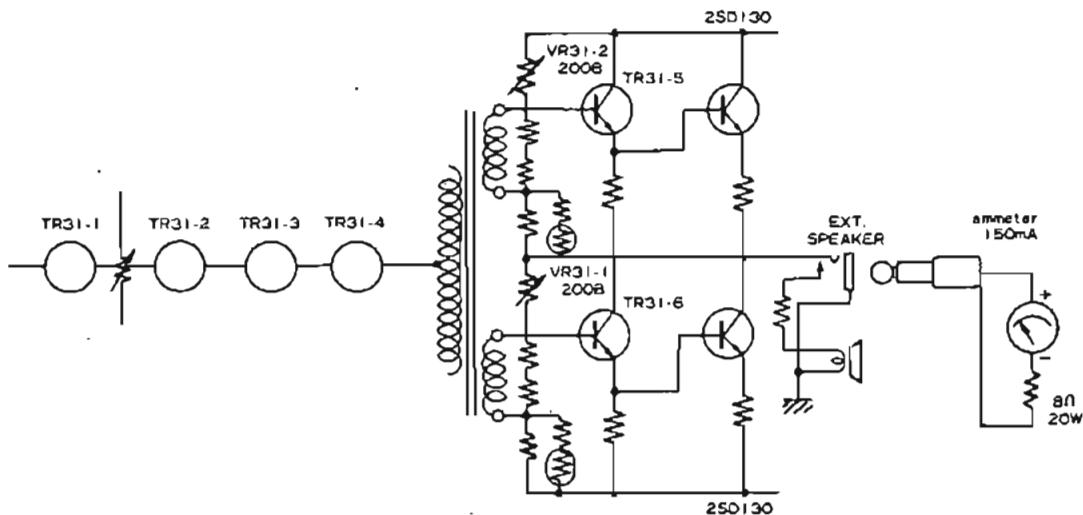

Fig. 1
- a) As shown in Fig. 1, connect the AM Meter (100 mA–150 mA scale) and a resistor (8Ω 20W) to the External Speaker Jack.